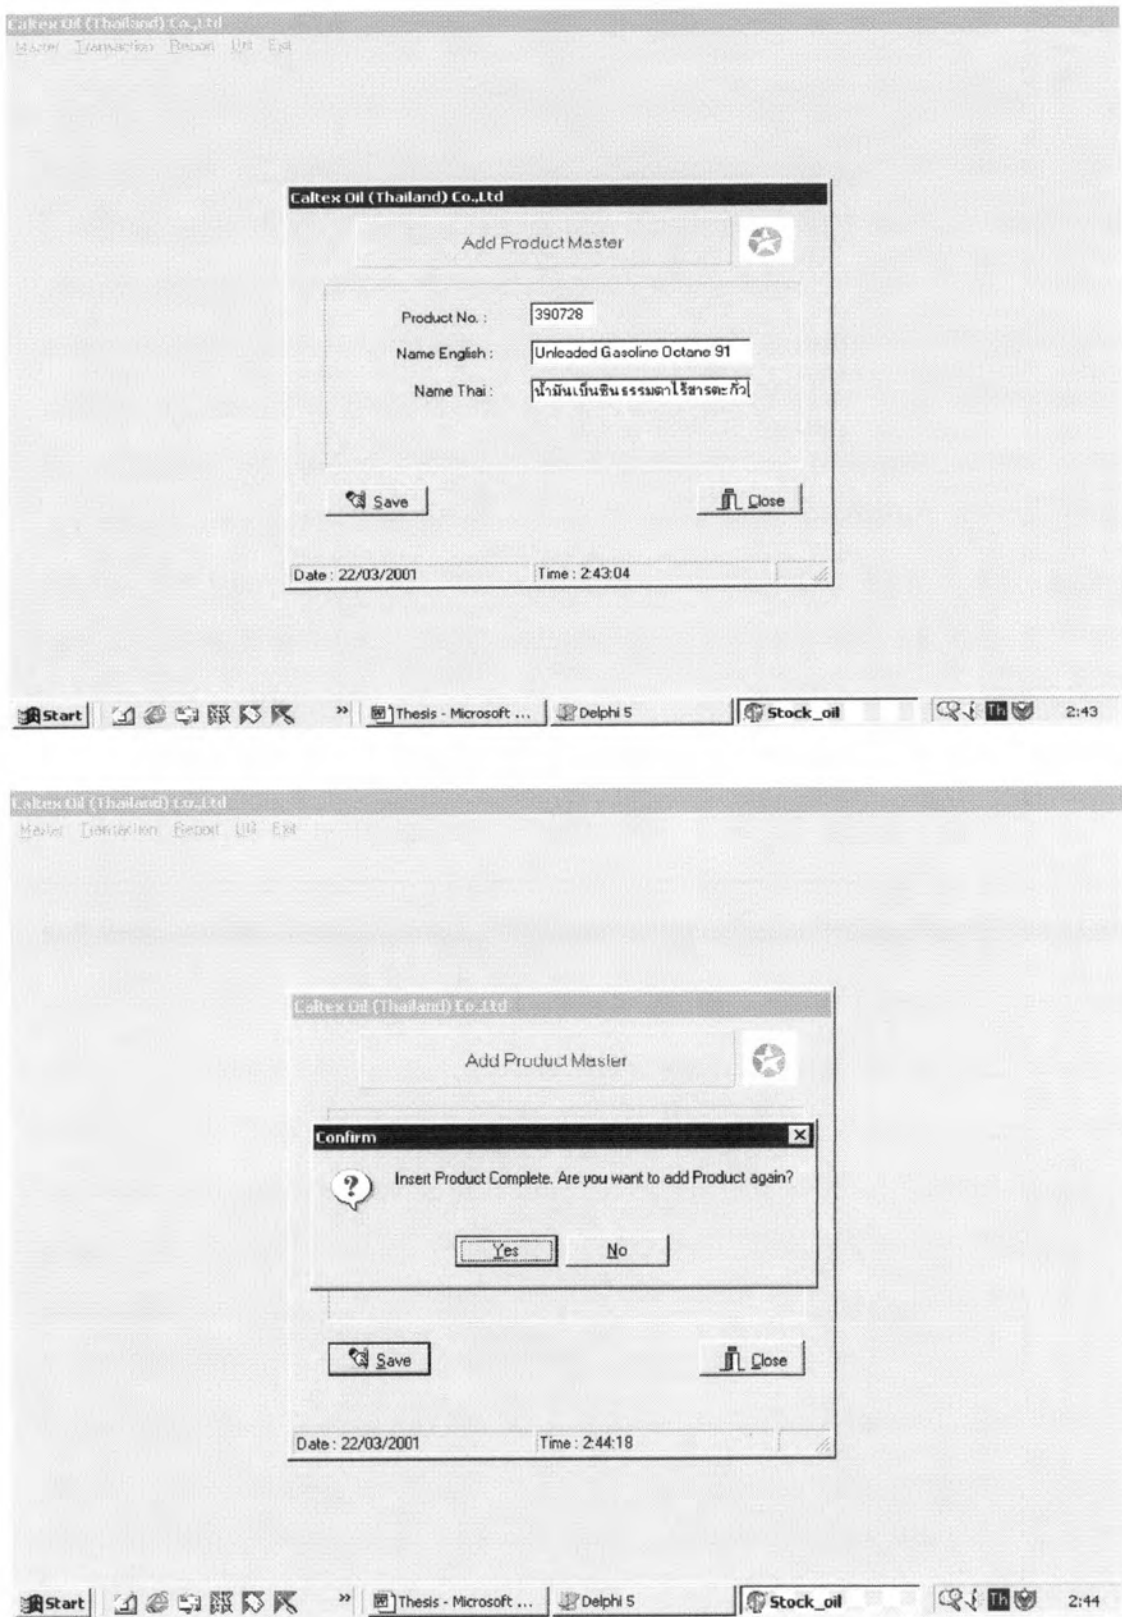

Figure 4-16 Add Product Menu
a) Add Product Menu (see figure 4.16)